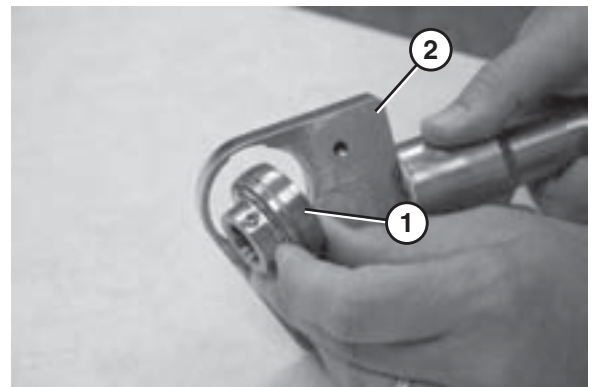

**Figure 87**
3. Using a bearing removal tool (Figure 87, item 1) remove the bearing (Figure 87, item 2).